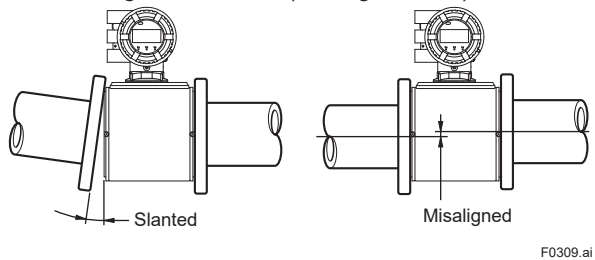

Figure 3.2.2 Slanted and Misaligned Flowmeter Piping
- (1) Correct any misaligned or slanted piping, and any gaps that may exist between mounting flanges before installing the flowmeter (see Figure 3.2.2).